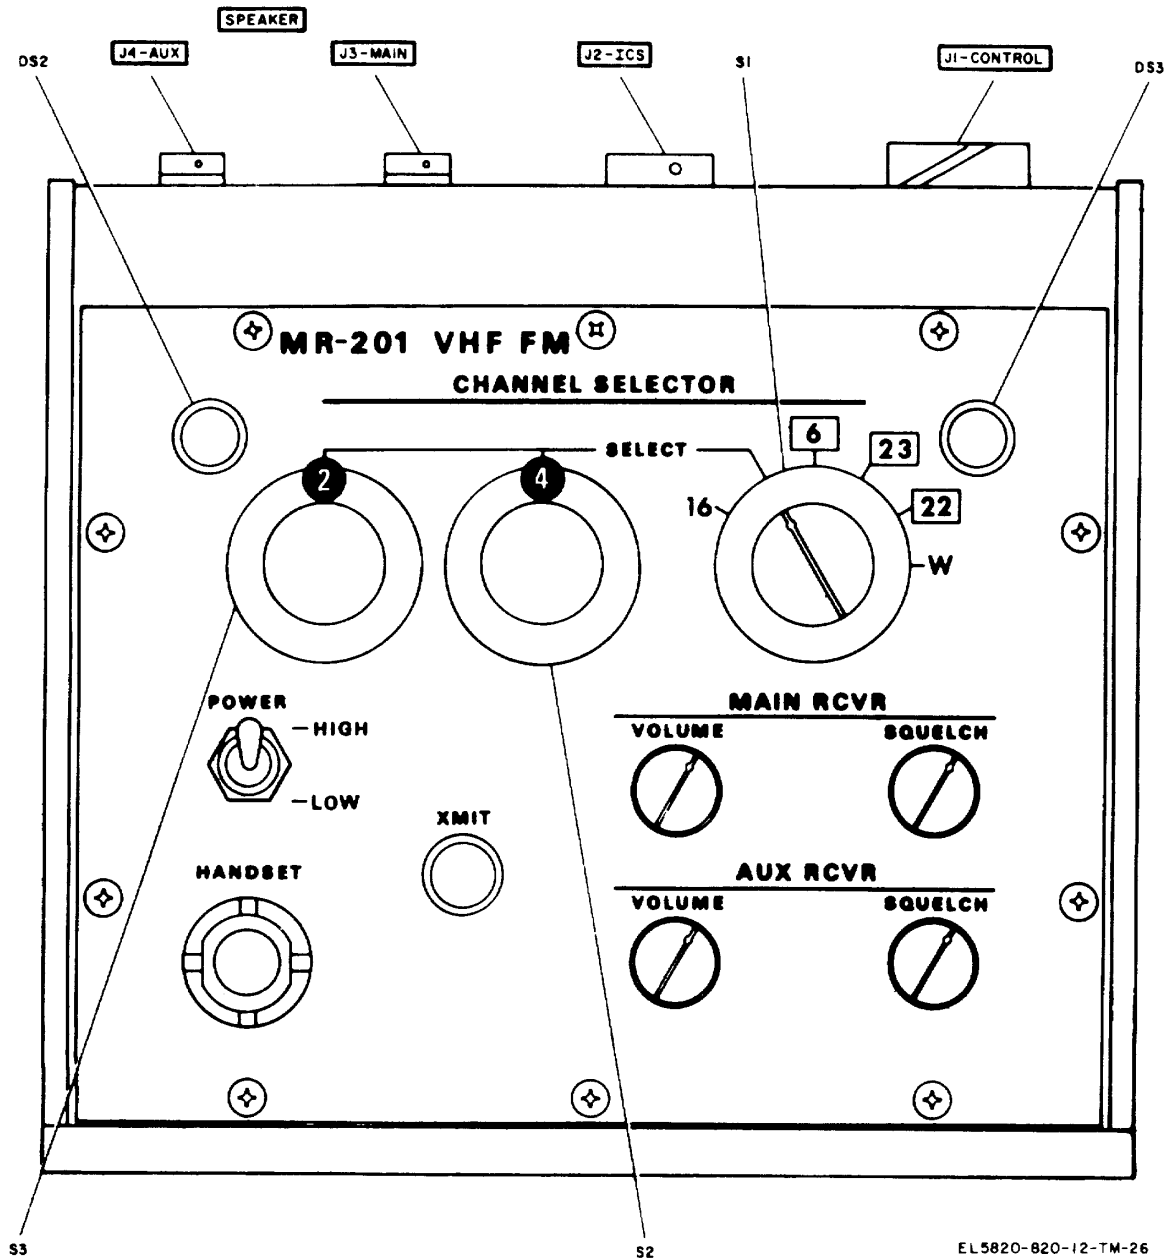

Figure 3-1. Receiver-Transmitter Control C-8981/URC-80[V], controls and indicators.
Table 3-1 provides a brief function of all the operator's controls and indicators for the AN/URC-80(V)/3. Figure 3-1 shows the location of these except power ON-OFF switch 6A7S1, which is located on the rt unit and shown in figure 1-6.
- a. Select the desired operating channel. If the desired operating channel is 16, 06, 22, 23, or the weather channel (162.550 MHz), the selection can be made by setting CHANNEL SELECTOR switch S1 (figure 3-1) to the desired channel. When CHANNEL SELECTOR switch S1 is in any position except SELECT, CHANNEL SELECTOR switches S2 and S3 (figure 3-1) are inoperative. The transmit function of the radio set is inhibited when CHANNEL SELECTOR switch S1 is set to W (weather channel 162.550 MHz). All operating channels of the maritime vhf band (table 3-2) may be selected as follows:
(1) Set CHANNEL SELECTOR switch S1 to SELECT.
(2) Set CHANNEL SELECTOR switches S2 and S3 so that the desired operating channel number is over the black spots of the two switches. *For example:* If channel 24 is selected, the number 2 is visible over the black spot of switch S3 and the number 4 is visible over the black spot of switch S2. See figure 3-1.